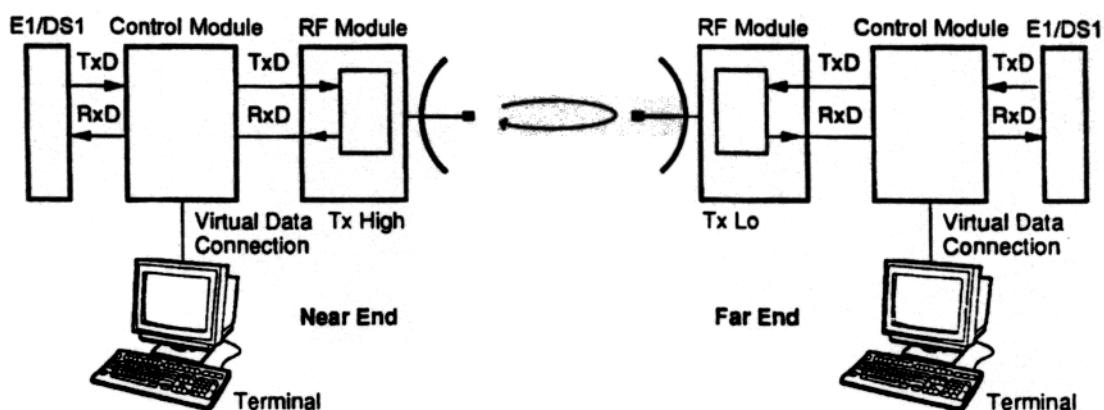

Figure 4-2. Near-end to Far-end Loopback Test
- 4.21 Test 2 verifies end-to-end performance of the Model 9000 radios. This test loops the signal through the multiplexer/demultiplexer (muldem) in both the near-end and far-end radios (refer to Figure 4-2). It must be done first from the near end, then from the far end. This procedure does **not** test the E1/DS1 interface at either end.